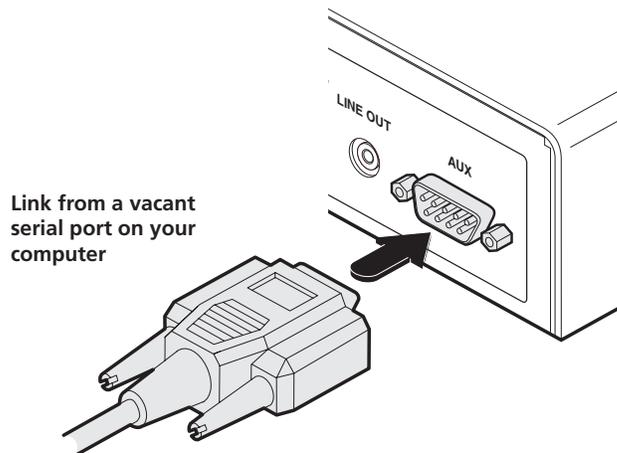

Figure 4-2. Connect a serial 'null-modem' cable to the AUX port.
- 2 Connect a suitable serial 'null-modem' cable (see Appendix D for pin-out) between a vacant serial port on your computer and the AUX port on the right hand side of the ServSwitch Agility rear panel. See Figure 4-2.